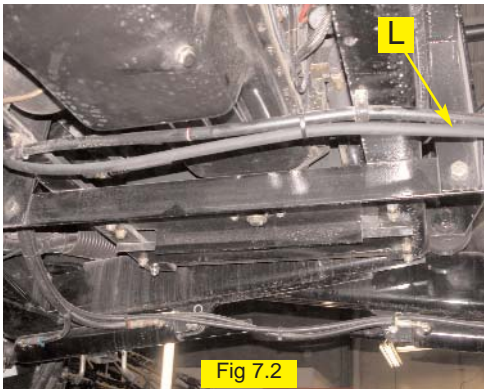

Fig 7.2
Note: The longer hose (L) will be routed under the sprayer with the machine steering line to the right cylinder. (Figure 7.2 and 7.3)
Be sure hoses are routed with enough slack to allow for suspension movements and vibrations. Use the heavy tie-straps provided to secure the hose away from moving parts. (Figures 7.2 - 7.4)